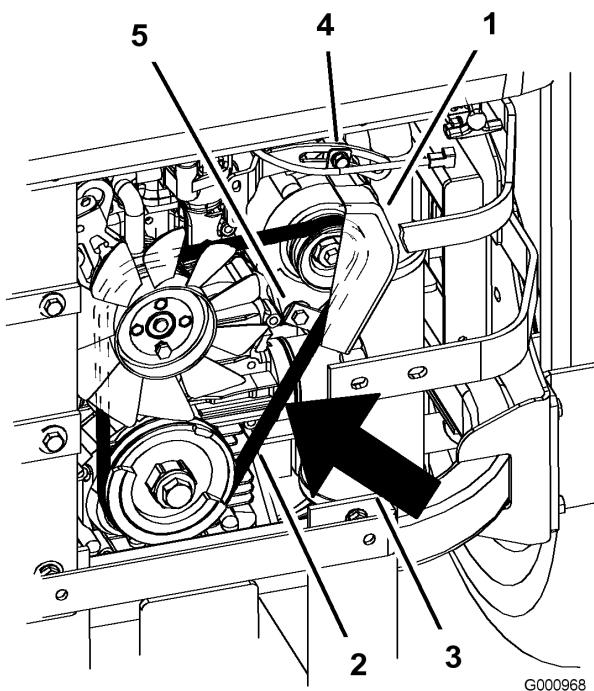

Figure 58
7. Loosen the bottom bolt and remove the upper bolt holding the alternator and cover (Figure 58).
9. Install a new belt around the pulleys and the alternator (Figure 58).
14. Tighten the bottom bolt and install the upper bolt holding the alternator and cover (Figure 58).
2. Adjust the alternator to the outside until there is 1/4 to 11/32 inch (7 to 9 mm) deflection in the belt between the engine and the alternator pulleys with 22.1 lbs of force (10 kgf) (Figure 58).
5. If the deflection is correct, tighten the bottom and upper bolt (Figure 58).